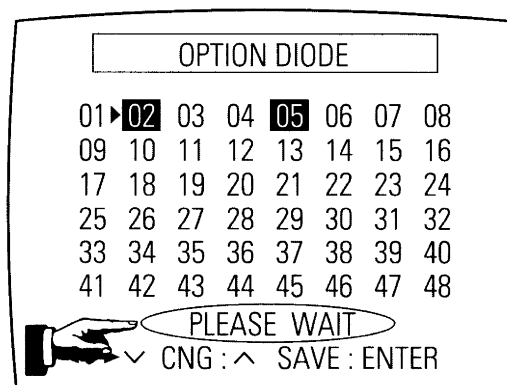

Fig. 5-18
- 5) Press the "ENTER (ENTRER)" button of remote control again to store the option number. ("SAVE" is displayed for a second as shown Fig. 5-18 and this setting is completed.)